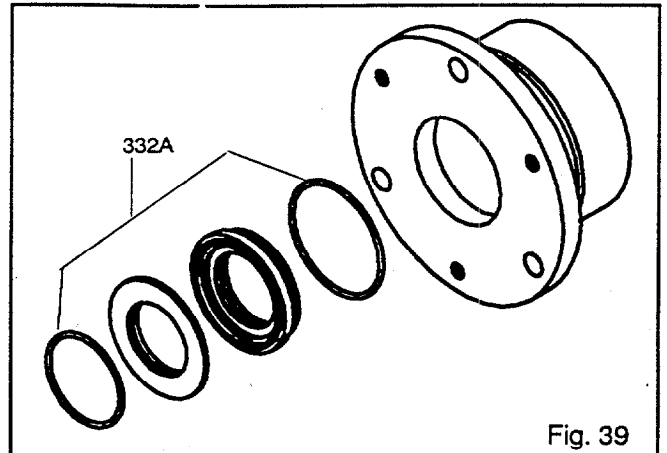

Fig. 39
7. Remove outboard labyrinth seal (332A) from bearing housing (134). Remove O-rings (497F), (497G) if necessary (Fig. 39).